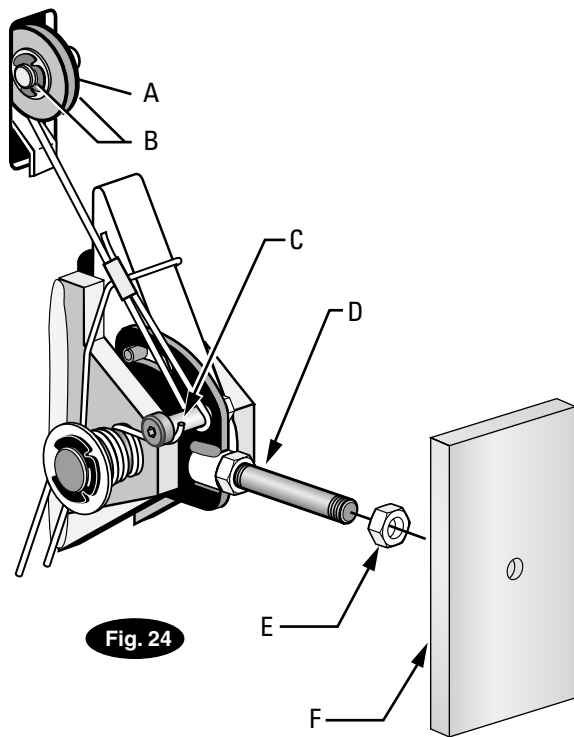

Fig. 24 Detail
- B) Slip loop end of cable over end of shoulder screw on right side latch control plate, Fig. 24.
- C) Feed the other end of the cable through the latch cable sheave slot making sure that the cable is running between the bottom side of the latch cable sheave and sheave cover then inside the right column, Fig. 24.
- J) At this point you **MUST** install the latch handle, jam nut, and right column latch cover Fig. 24 & Fig. 27. Install latch handle ball, Fig. 27.